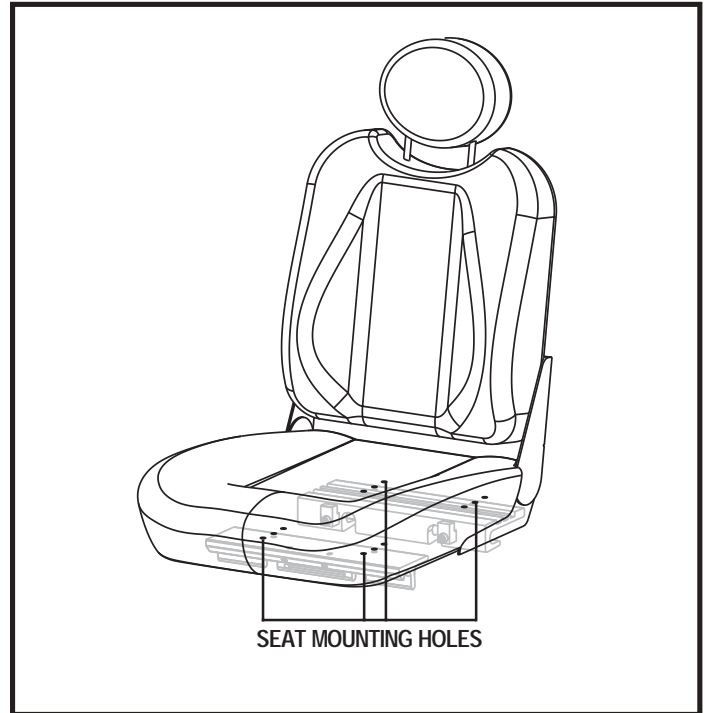

Figure 15. Seat Position Adjustment
6. Reposition the extrusions on a different set of mounting holes. You must move both extrusions the same number of holes either forward or backward. See figure 15.